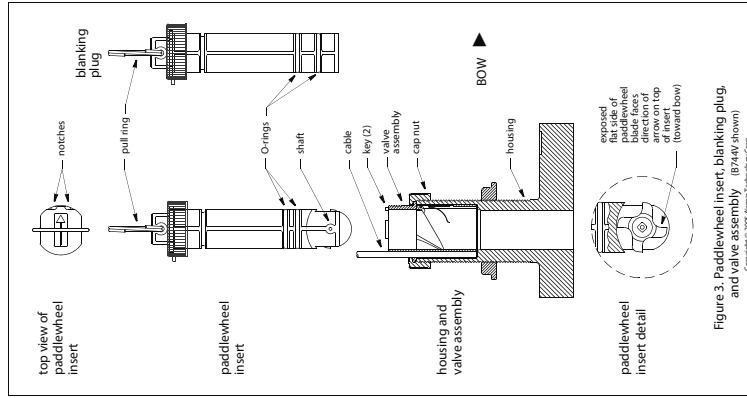

Figure 3. Paddlewheel insert, blanking plug, and valve assembly (B744V/VL shown). Copyright © 2008, Airmar Technology Corp.
1. After the sealant cures, inspect the O-rings on the paddlewheel insert (replace if necessary) and lubricate them with the silicone lubricant supplied (Figure 3). The O-rings must be intact and well lubricated to make a watertight seal.
The multisensor incorporates a self-closing valve which minimizes the flow of water into the vessel when the paddlewheel insert is removed (Figure 3). The curved flap valve is activated by both a spring and water pressure. Water pushes the flap valve upward to block the opening, so there is no gush of water into the boat.
1. On the blanking plug, inspect the O-rings (replace if necessary) and lubricate them with silicone lubricant or petroleum jelly (Vaseline®) (Figure 3). The O-rings must be intact and well lubricated to make a watertight seal.
4. Slide the blanking plug into the housing. Seat it into place with a pushing twisting motion until the keys fit into the notches (Figure 3). Screw the INSERT nut in place and hand-tighten only. Do not over tighten.
1. On the blanking plug, inspect the O-rings (replace if necessary) and lubricate them with silicone lubricant or petroleum jelly (Figure 3). The O-rings must be intact and well lubricated to make a watertight seal.
3. Separate the paddlewheel insert from the valve assembly by unscrewing the INSERT nut (Figure 3). Grasp the pull ring and pull slowly upward.
5. To reinstall the valve assembly, inspect the O-rings on the paddlewheel insert (replace if necessary) and lubricate them with silicone lubricant or petroleum jelly (Figure 3). The O-rings must be intact and well lubricated to make a watertight seal.
1. Using the new paddlewheel shaft, push out the old shaft about 6mm (1/4"). With pliers, remove the old shaft (Figure 3).